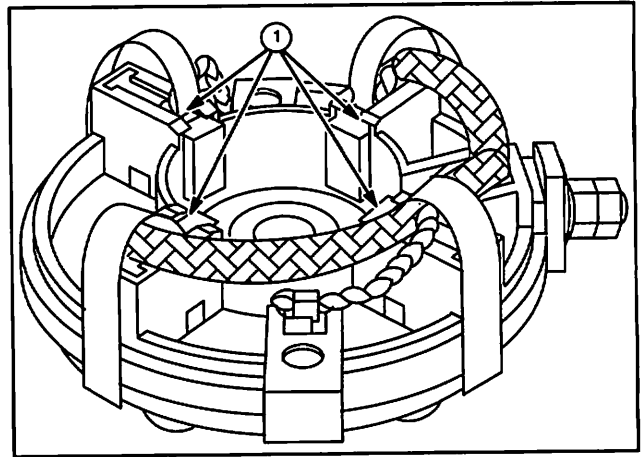
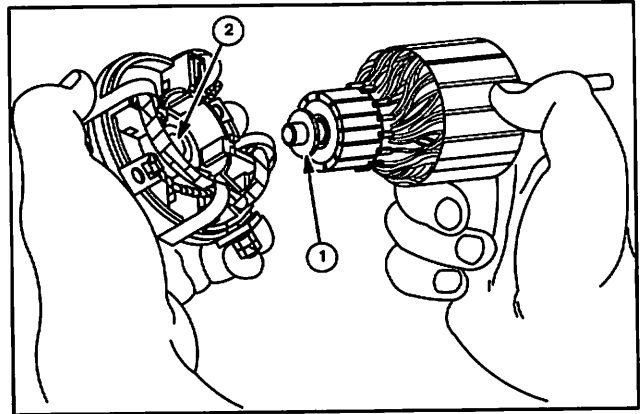

Fig. 46
Fig. 47
1. Insert brush springs and brushes (1), Fig. 46, in holders as far as possible, and hold them in this position with brush retainers, Figs. 6, 46.
5. Assemble spacers (1) and drive head end bracket, bearing shown – (2), aligning seam in housing with drive end mounting bracket.
7. Armature end play should be .006" to .038" (.15 to .97 mm) after assembly, Fig. 47.